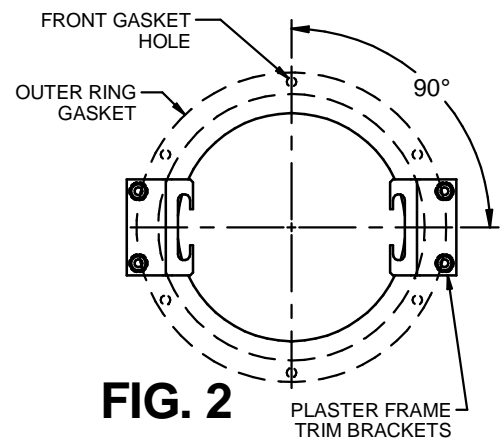

FIG. 2
3. Orient the metal ring so the holes avoid the trim bracket locations (Fig 2). These places are where the mounting screws will be installed, so make sure the ring is properly positioned. Optional pre-drilling: using a 9/64" drill bit, the marks can be pre-drilled to allow easier installation of the IP65/VR accessory. Take caution not to damage the reflector.